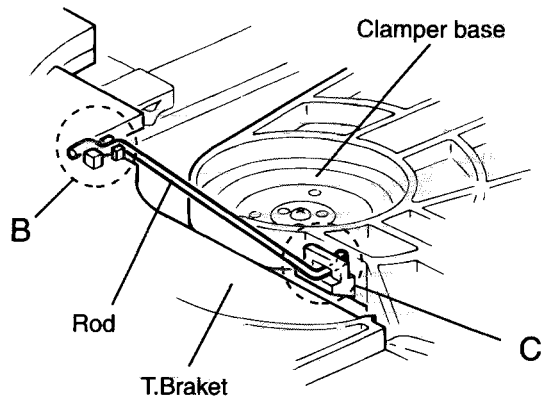

Fig.2
(See Fig.2~4)**
6. From the clamber base section "C", remove both of the edges fixing the rod (See Fig.2 and 3).